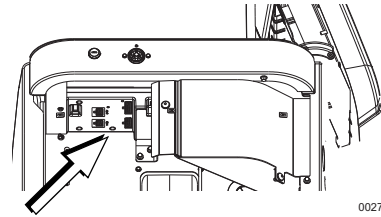

Figure 4-9. Accessory Port (Internal Breaker)
- See Figure 4-9. On models equipped with an internal breaker mounted near the controller, accessory port is visible from battery compartment when end panel is removed.